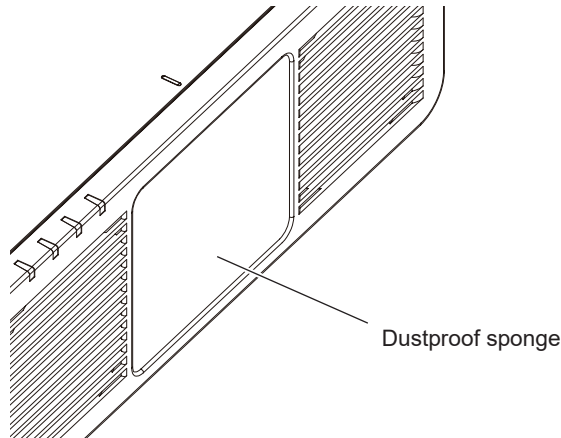

Fig. 1
1) Remove the dustproof sponge. (Fig. 1)